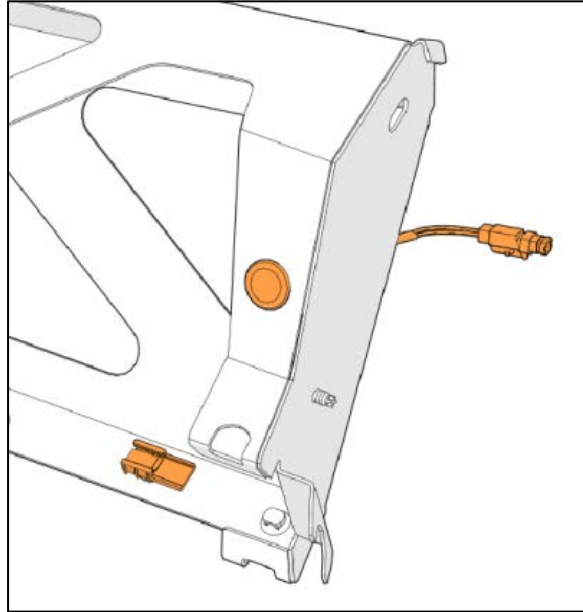

Figure 16
15. Install the new coolant level warning light #382564 as shown on Figure 16.
16. Install the new Christmas tree type mounting clip #564108 as shown on Figure 16.